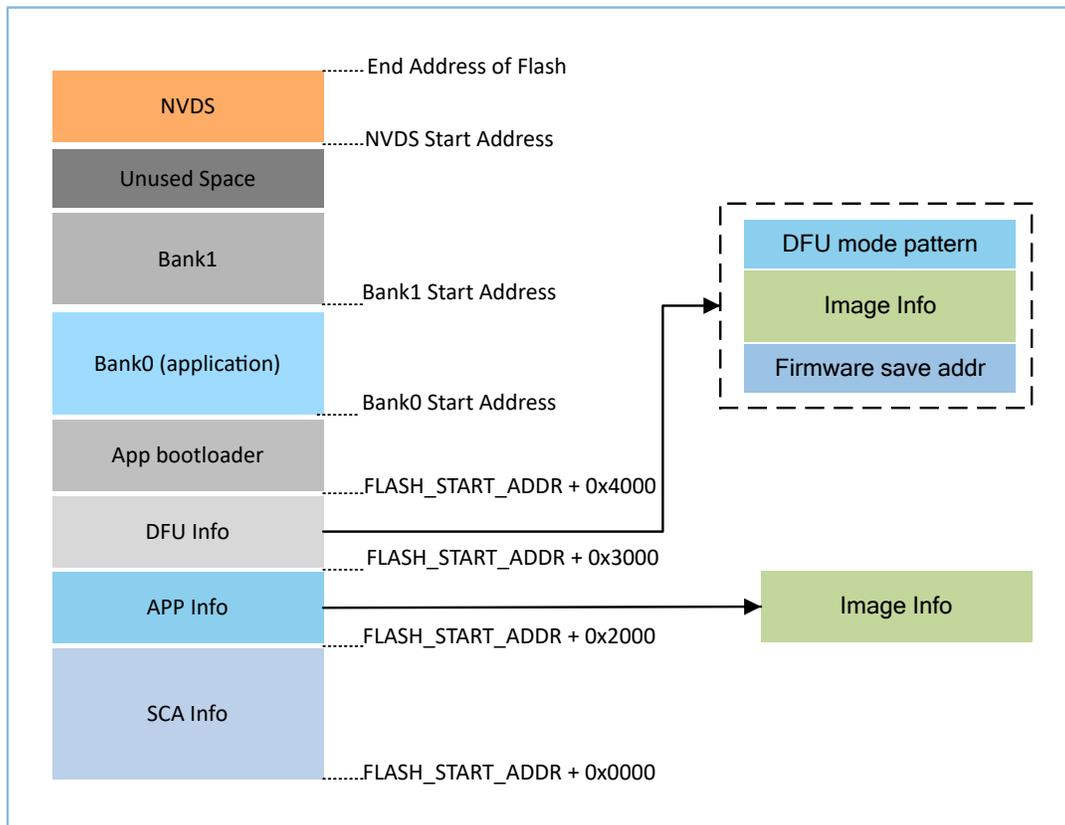

Figure 2-1 Flash layout design
3. After firmware is written, the Bank0 application updates the new firmware information (Image Info in Figure 2-1), the start address to store the new firmware (Firmware save addr in Figure 2-1), and the current DFU mode (DFU mode pattern in Figure 2-1) to the DFU Info area.